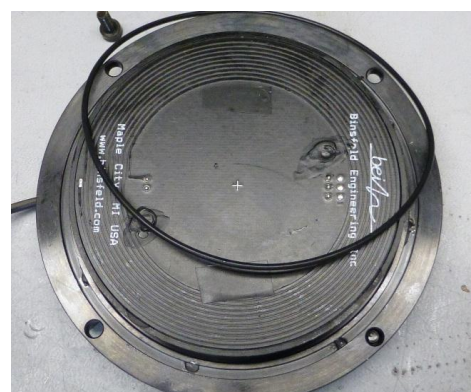

Fig. 3 – Stator Plate with Electronics
9. Install customer's stationary assembly (stator) housing if not already installed. (Fig. 3)